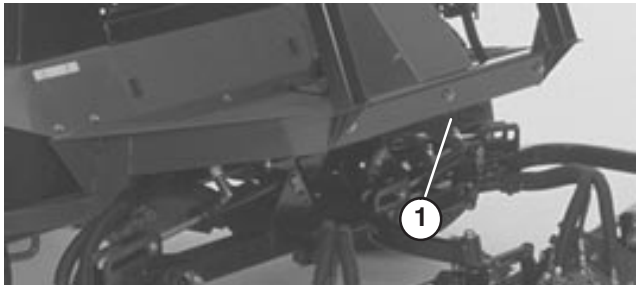

Figure 28
2. Attach a suitable chain, strap or cable to the center of the front frame member (Fig. 28).